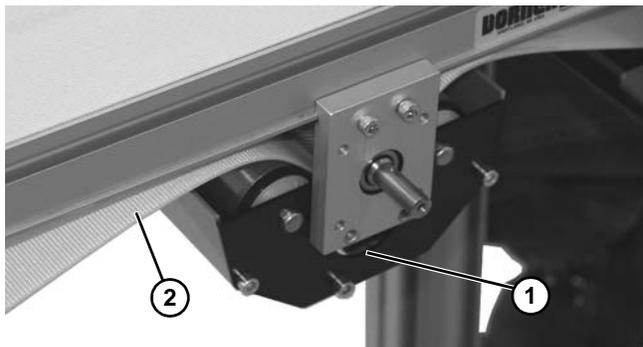

Figure 118
- Lower and remove mid drive module (**Figure 118, item 1**) from belt (**Figure 118, item 2**).